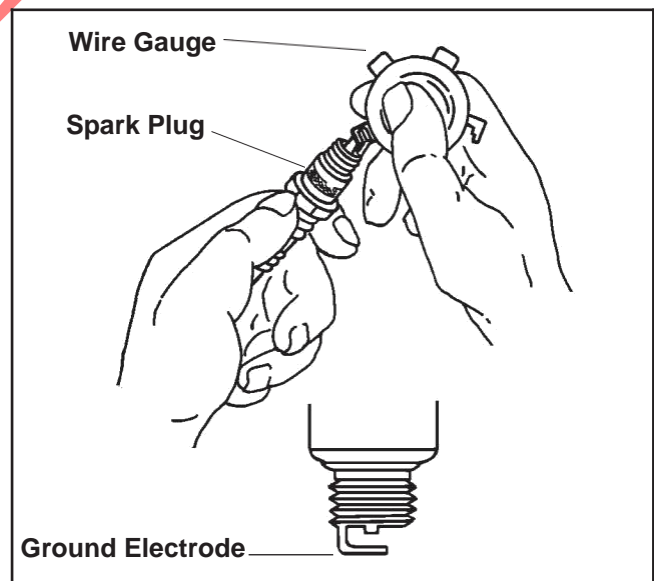

Figure 8-1. Servicing Spark Plug.
3. Check the gap using a wire feeler gauge. Adjust the gap by carefully bending the ground electrode. See Figure 8-1.